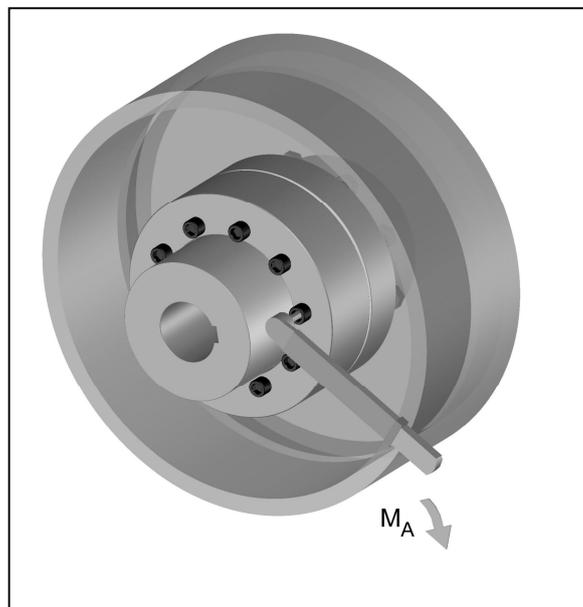

Fig. 10
- Tighten the claw ring threaded joint with the tightening torque M_A stipulated in table 8 (Figure 10).